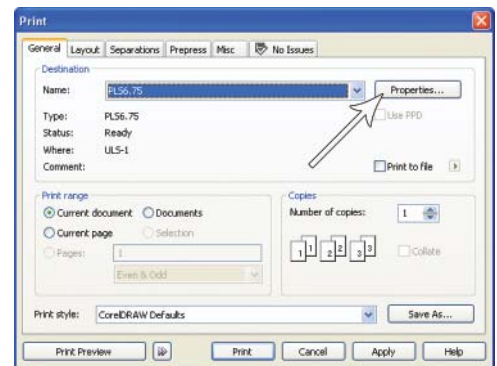

Figure 4
2. When you are ready to print the job, click FILE and then click PRINT. Make sure that your laser system appears in the DESTINATION NAME dropdown list, and then click PROPERTIES (Figure 4) to display the VersaLASER system printer driver settings (Figure 5).
7. Now click on PRINT in the Print dialog window (Figure 4).